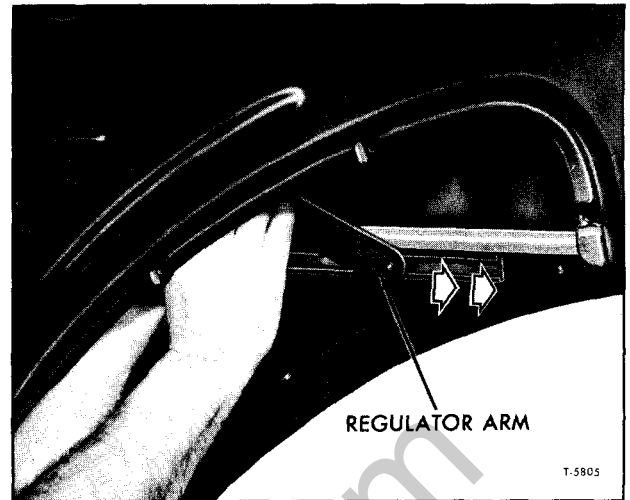
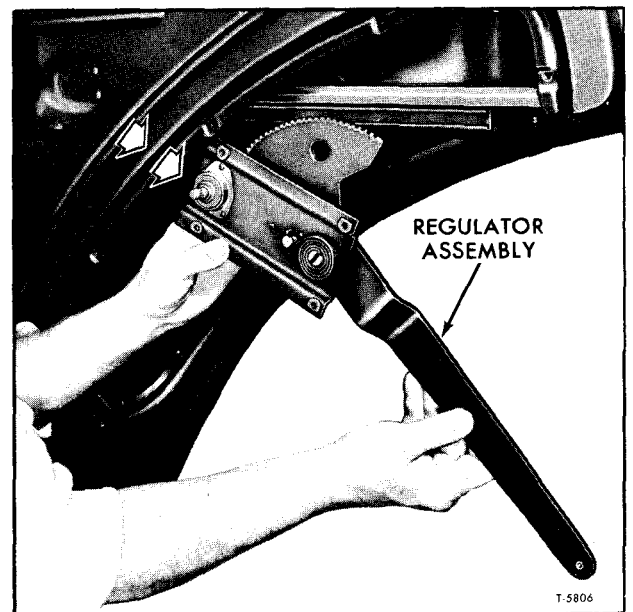

Figure 18—Removing Regulator Arm from Track
Figure 19—Lowering Regulator from Door
4. Guide regulator arm to remove roller from window channel track (fig. 18). Carefully lower regulator assembly from door (fig. 19).
8. Lower window and remove window regulator assembly as described previously (figs. 18 and 19).